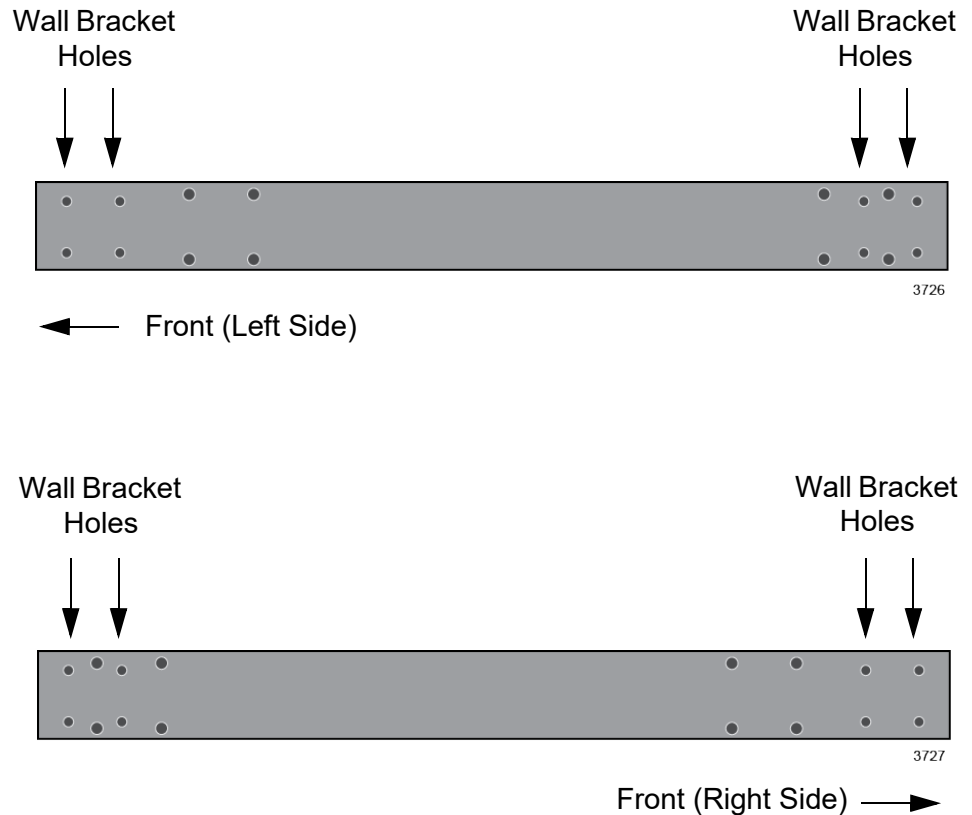

Figure 62. Mounting Holes
The sides of the switch have two sets of holes. One set is for installing the switch on a wall with the brackets and the other set is for the AT-RKMT-SL01 Rack Mounting Kit. The holes for the brackets are identified in Figure 62.
2. Install the four brackets with sixteen screws that come with the switch to the sides of the unit, as shown in Figure 61 on page 130 and Figure 62 on page 131.